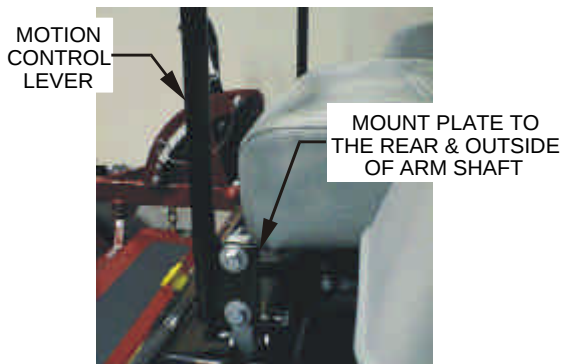

FIGURE 4
- 3.7.1 Loosen and remove the two (2) 3/8" x 1" bolts and spring disc washers which attach the motion control levers to the control arm shafts for shipping and the two (2) 3/8" x 1" bolts and spring disc washers which are screwed into the control arm shafts.
- a) Install the left motion control lever onto the control arm shaft (See Figure 4) on the left side of the console. Place the lever (with the mounting plate towards the rear) on the **outside** of the control arm shaft and secure with the bolts and washers. Position the lever so the bolts are in the center of the slots on the lever mounting plate and tighten until snug. Repeat on opposite side of unit.